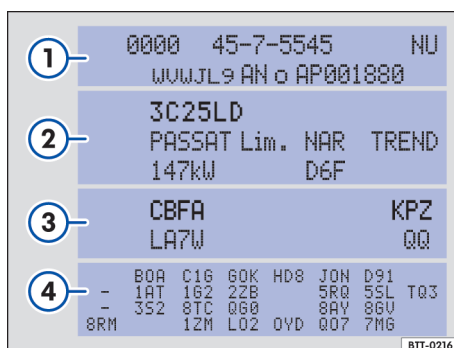

Fig. 194 Vehicle identification label: Shown in the example with engine identification code CBFA ③.
The vehicle identification label → fig. 194 is affixed to the area of the spare wheel well underneath the
- ① Vehicle identification number (VIN)
- ② Vehicle type, engine output, and transmission
- ③ Engine and transmission identification codes, paint number, and interior type. In the example, the engine identification code is "CBFA" → fig. 194.
- ④ Optional equipment and part numbers